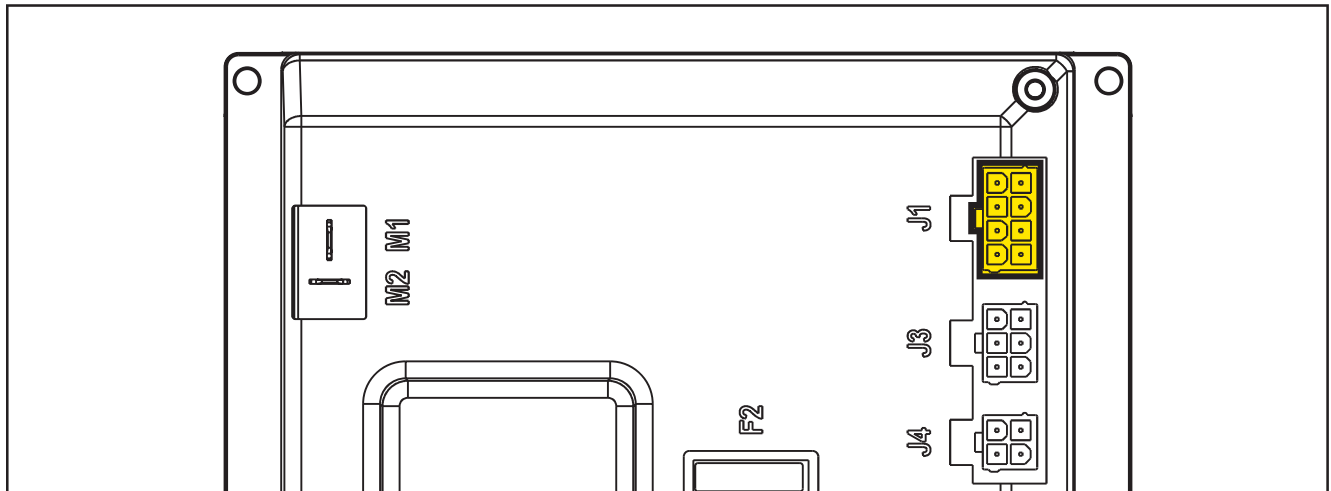

Figure 22:
**(Figure 22) J1: MOLEX MINIFIT type, 8-ways vertical**